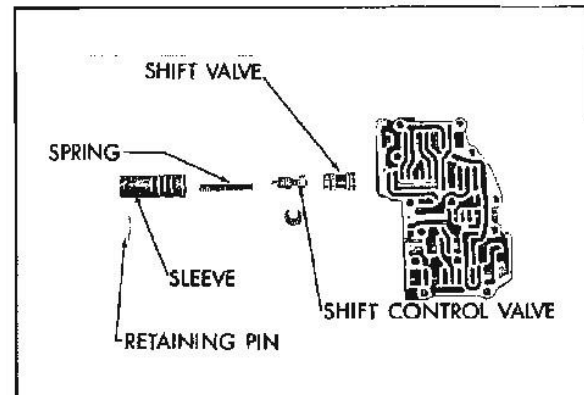

Fig. 7B-49 Shift Valve and Shift Control Valve
4. Install spring detent assembly on valve body (Fig. 7B-50). (Note routing of solenoid wire and wire retaining clip position.)
6. Connect solenoid connector to case terminal (Fig. 7B-50). Make certain that case terminal retaining finger engages connector and wire is retained by clip.